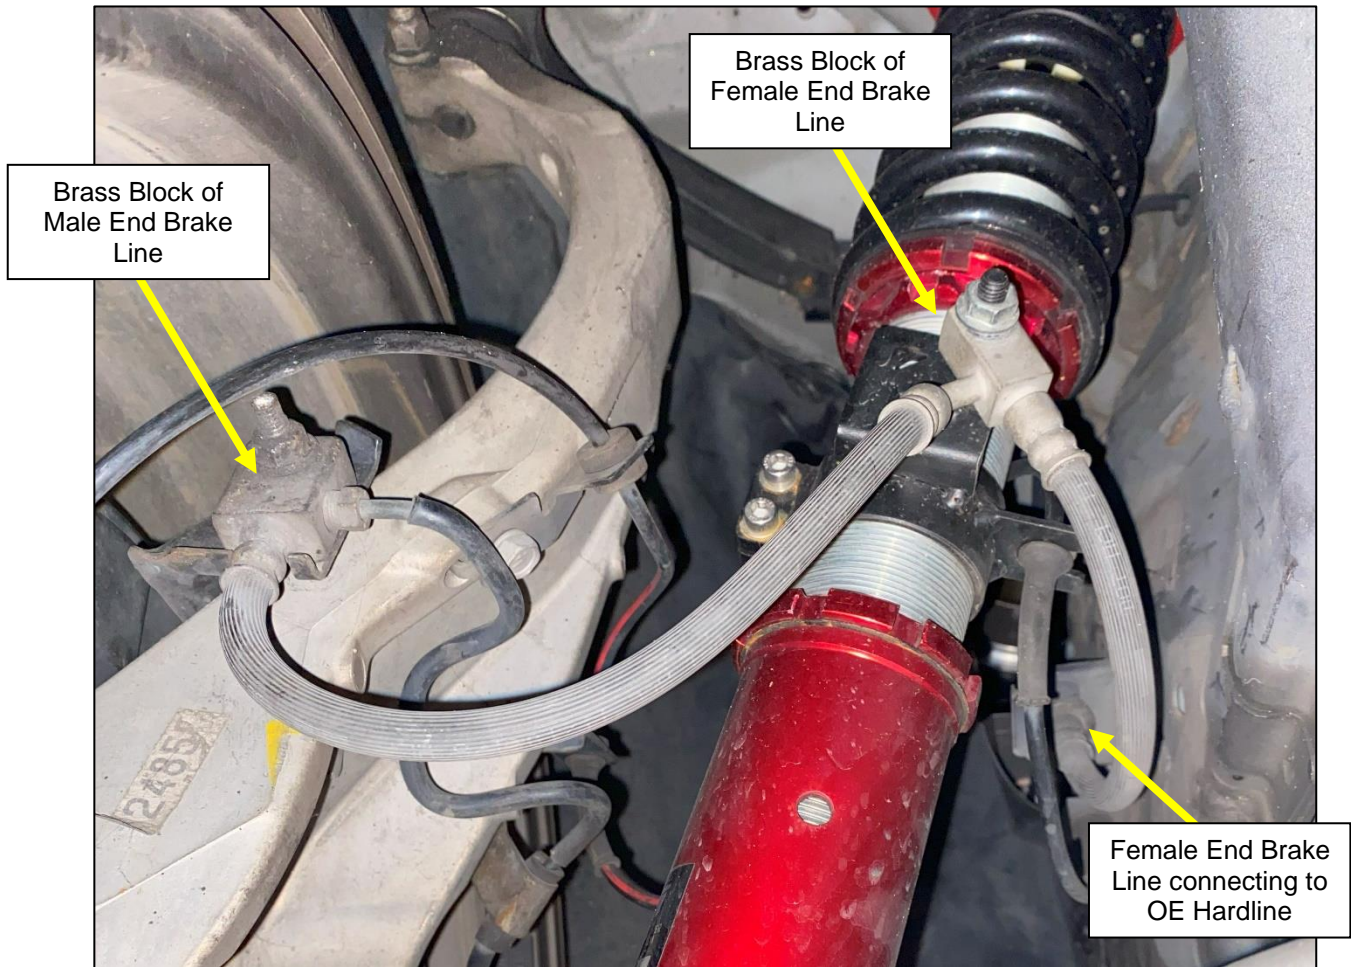

Figure 6
11. Install the Brass Block of the Male End Brake Line to the Hardline from the Caliper. The Brass Block of the Shorter Female End Brake Line will be secured to the Strut Mount. The Female End of the Brake Line will connect to the OE Hardline from the chassis of the vehicle. *Figure 6.*